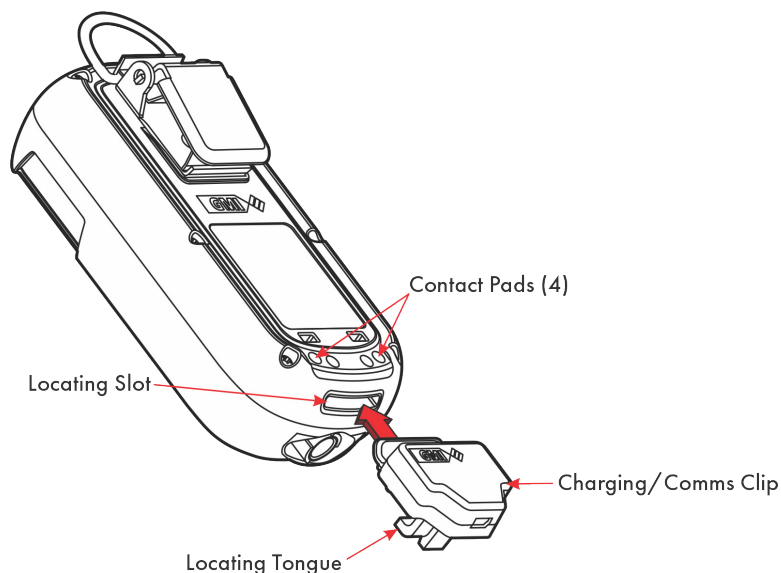

Figure 49: Charging/Comms Clip Connection
1. Connect the supplied charging/comms clip to the monitor. Ensure the locating tongue on the clip engages with the monitor locating slot and is firmly seated (refer to Figure 49: Charging/Comms Clip Connection).